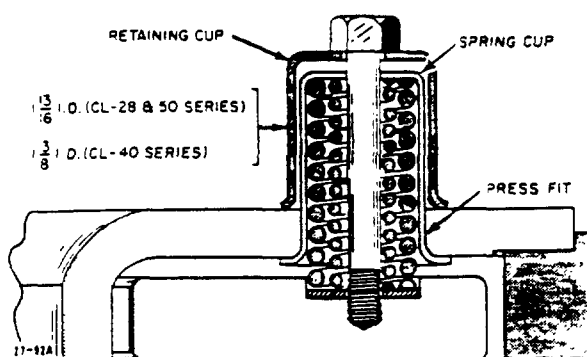

Figure 4-1. Retaining Cups
1. Use three spring retention tools (17-T-1123 for CL-28, 40 and 50 series, 17-T-1766 for CL-47 series) or retaining cups as shown in Figure 4-1, when removing a clutch assembly from the flywheel.